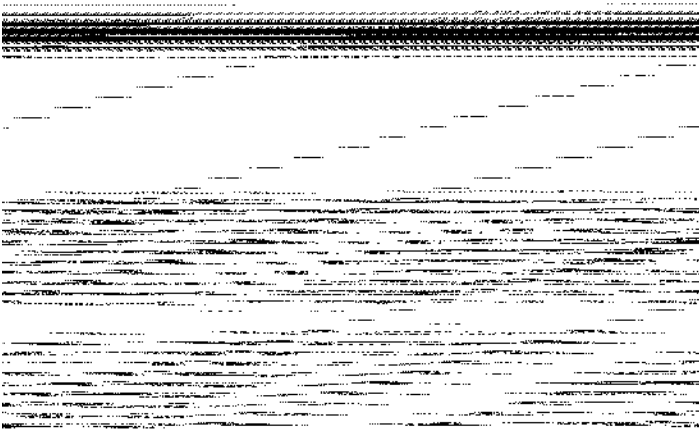

Figure 1. Vertical Installation of Vent Damper on Sentry "S" Boilers
3. Select a proper, convenient location for vent damper. Vent damper may be installed vertical or horizontal on all models (see figures 1 and 2).
- B. 1. This device must be installed after the boiler draft hood (between the draft hood outlet and the connector to the outdoor chimney or vent) as close to the draft hood as practicable, and without modification of the draft hood or the vent damper. (See figures 1, 2 and 3.)